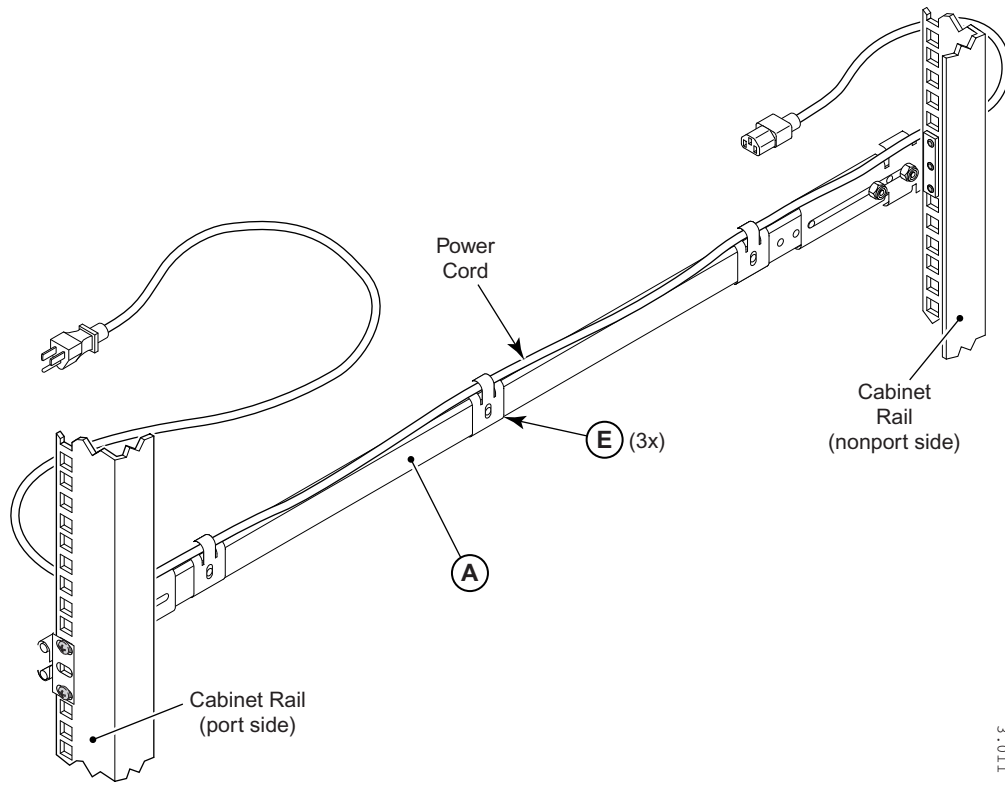

FIGURE 12 Inserting power cords in clips
2. Insert the power cords into the power cord clips, with the power cord prongs pointing toward the power source (Figure 12).